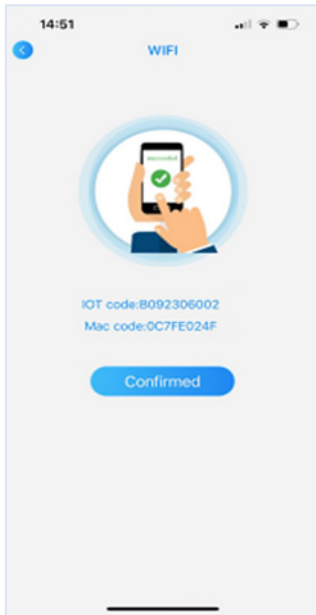
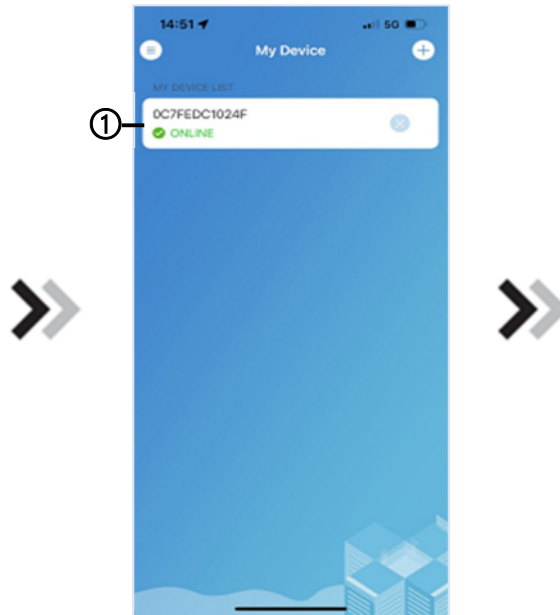

Fig. 22
Fig. 23
17. Select 'Confirmed' once both the IOT and MAC codes are displayed [Fig.22]. The module installation and WiFi pairing is now complete and the device will appear on the My Device screen [Fig.23].